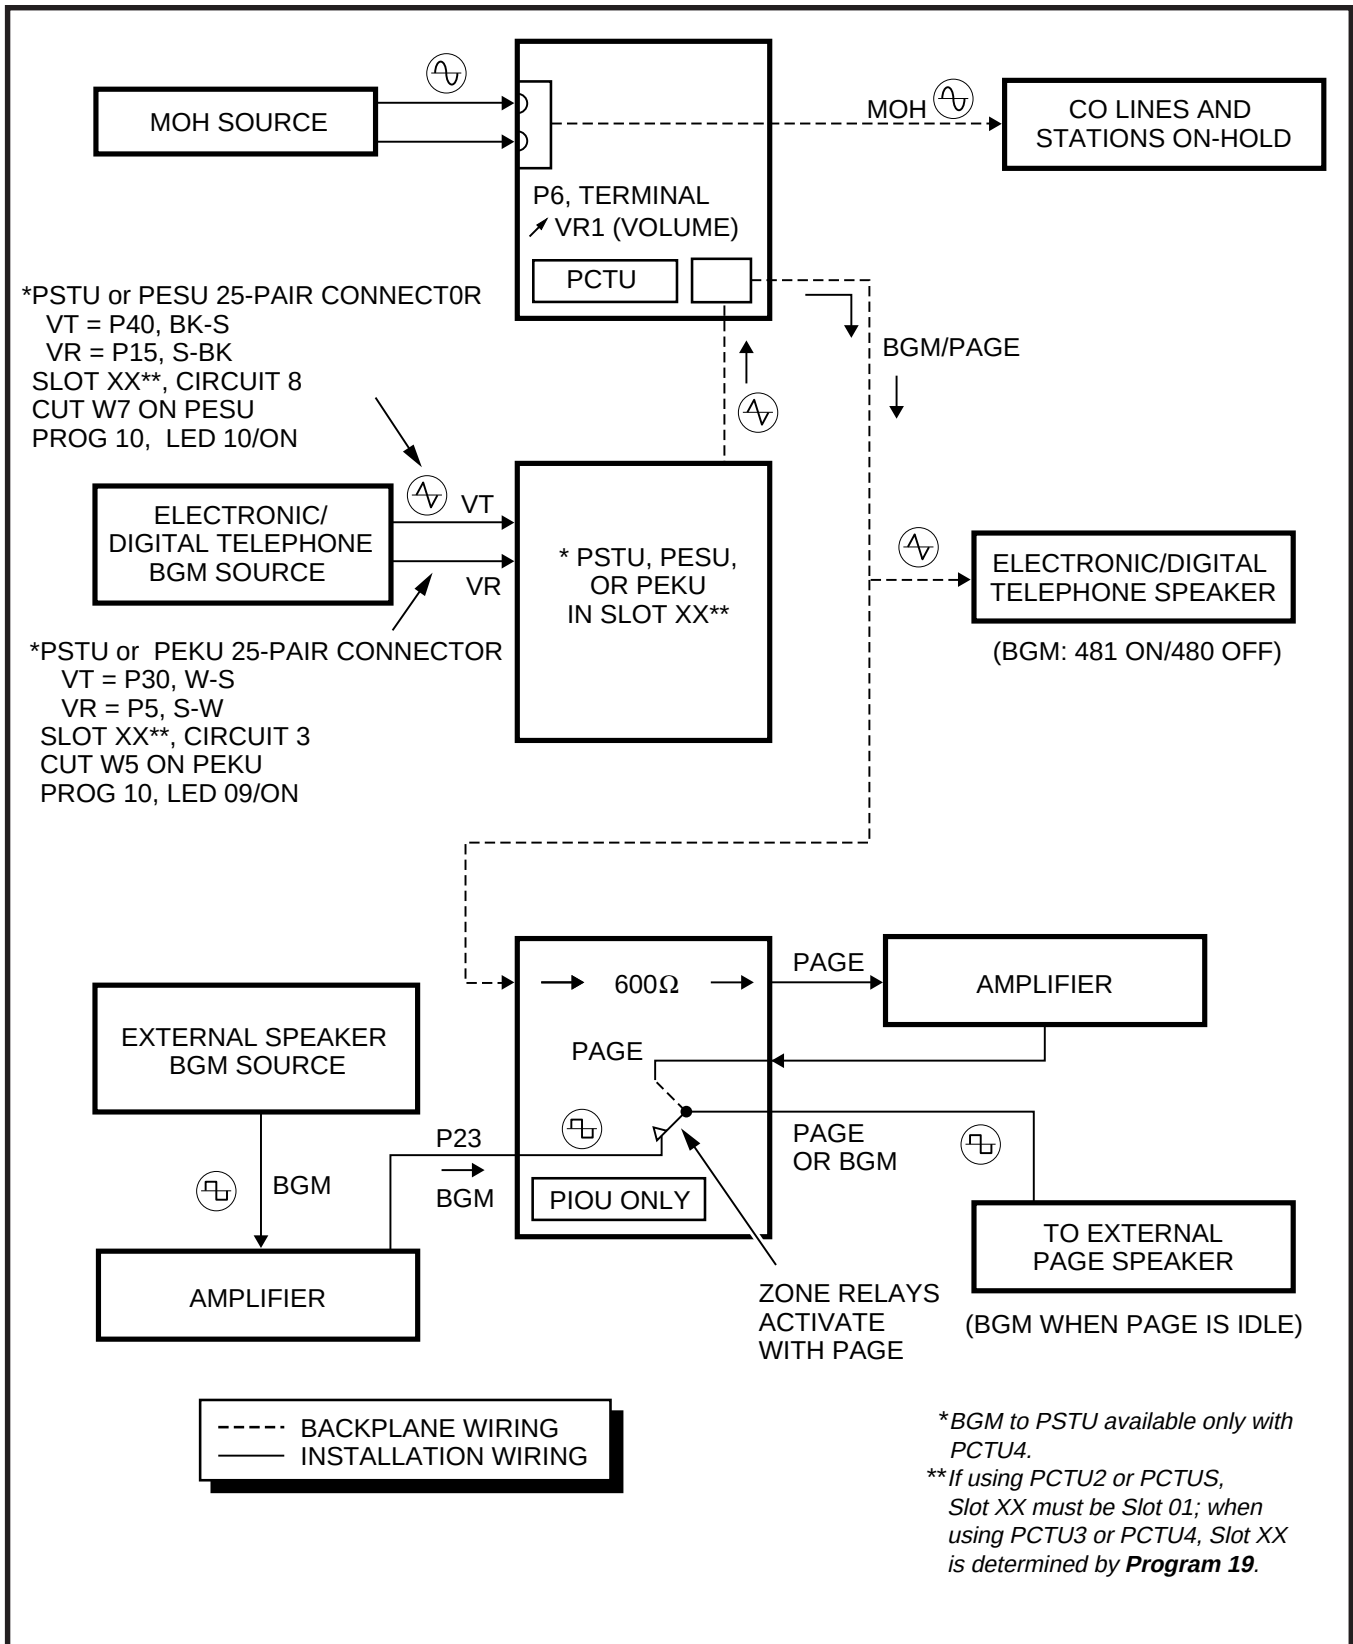

FIGURE 8-7
- 3) Configuration C—three music sources: This configuration allows the MOH source to be connected to the **P6** terminal of the PCTU or PCTUS (as in Configuration A). The digital or electronic telephone BGM source is connected to either a PEKU, a PESU, or PSTU PCB (as in Configuration B), and a separate BGM source is sent to the external page speakers via the PIOU PCB (see Figure 8-7). When a separate BGM source is connected to the PIOU, two customer-supplied amplifiers are required to drive the external speakers. One amplifier drives the speakers for BGM when page is idle and the other amplifier drives the speakers during page. The PIOU switches BGM or page to the external speakers via zone relays. (The PIOUS and PEPU do not